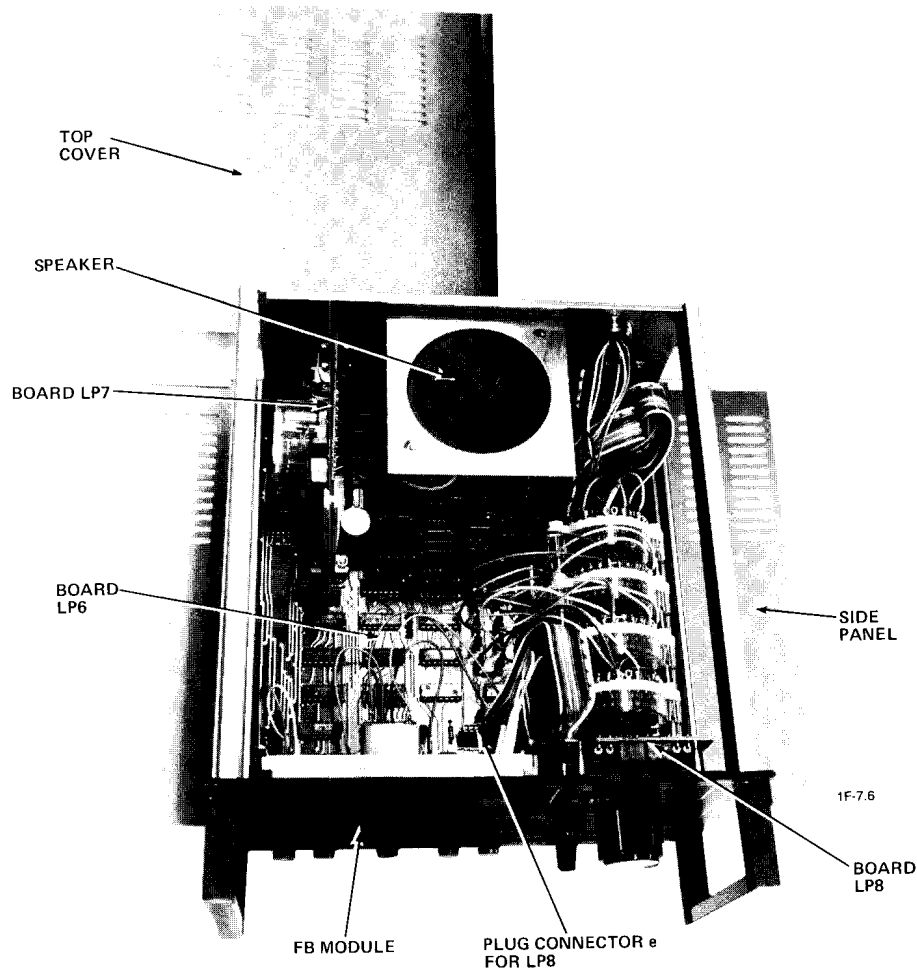

Figure 8-19 - Top of FB Module Showing PC Boards
Proceed as follows to replace a PC board (see Figure 8-19).
3. Pull the side panels out of the FB module (see Figure 8-19).
5. To remove LP8, remove the plug e from LP6 and the two phillips screws securing LP8 to the front cover. (see Figure 8-19).
If one of the digits fails, replace the malfunctioning digit; if necessary replace PC board LP8 (see Figures 8-19 and F-LP8). If both of the digits are not functioning, the fault lies in PC boards LP 6 (see Figure 8-19 and F-LP6).